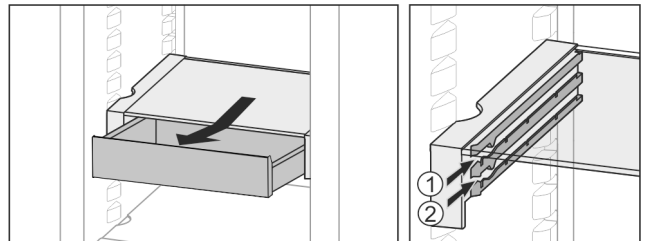

Fig. 27
- ▶ Slide back at the height you want Fig. 27 (1) or Fig. 27 (2).